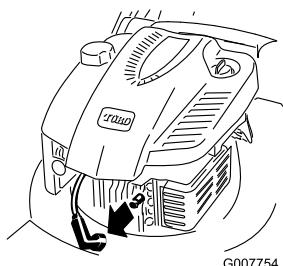

Figure 22
- Disconnect the spark plug wire from the spark plug (Figure 22) before performing any maintenance procedure.